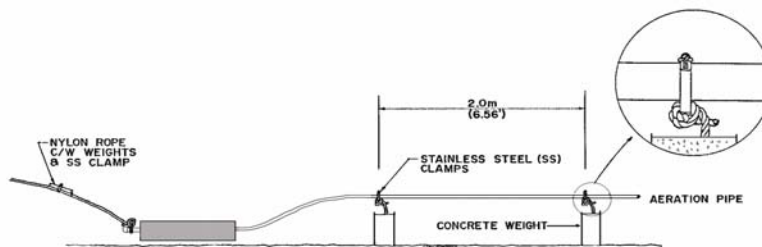
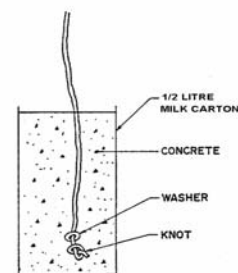

Fig. 2 Weight Attachment
Fig. 3 Concrete Weight
2. Construct concrete weights. A one-litre milk carton half filled with concrete will result in one kg (2.2 lb.) weight. Imbed one end of a nylon rope or coated wire e.g. TWU #12 approximately 450mm (18 in.) in length that is knotted and tied to a washer into the wet concrete (see Figure 3). The other end of the wire/rope is tied to the polyethylene pipe (AFTER CONCRETE HARDENS) every two m (six feet) and clamped, using stainless steel clamps (Figure 2). Attach the weights as close to the pipe as possible.
8. Slacken the rope and tie it to a permanent post on shore (see Figure 2).